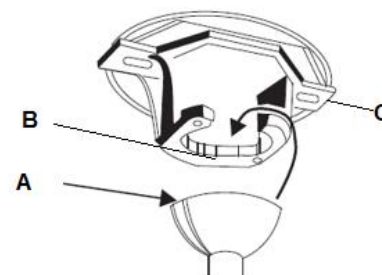

Fig. 7
Lift the fan assembly onto the mounting bracket. Ensure the registration slot (A) of the hanger ball is positioned on the stopper (B) of the mounting bracket (C) to prevent the fan from rotating when in operation. **Fig.7**